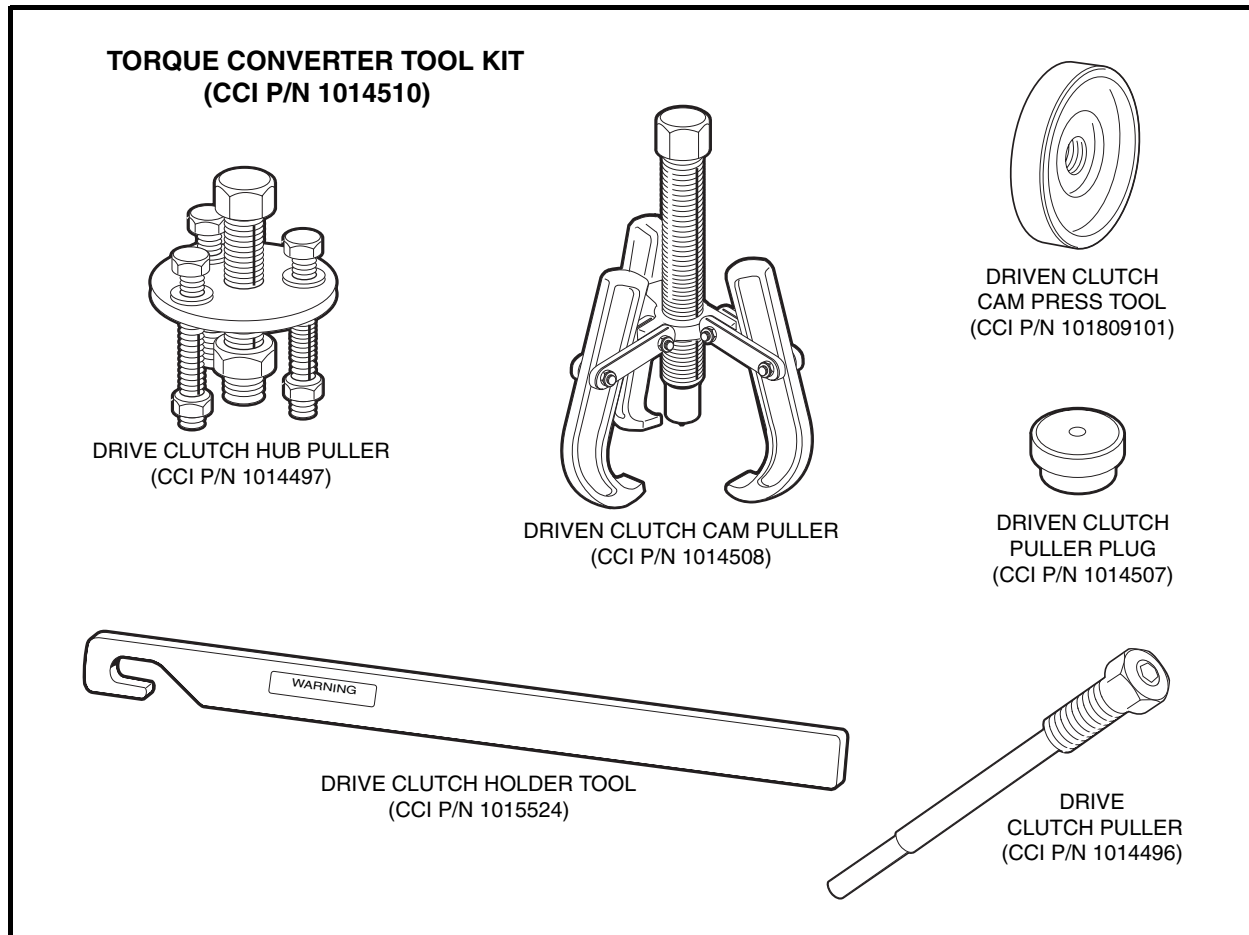

Figure 20-1 Torque Converter Tool Kit
- Torque Converter Tool Kit (CCI P/N 1014510) (**Figure 20-1, Page 20-2**).